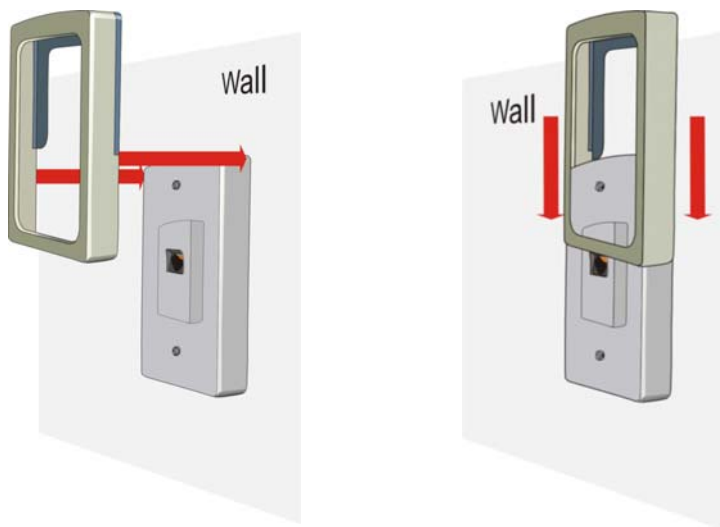

Figure 4: Mounting The Base
2. Slightly loosen the screws on your telephone jack, slide the plastic base into place, and retighten the screws (see figure 4).